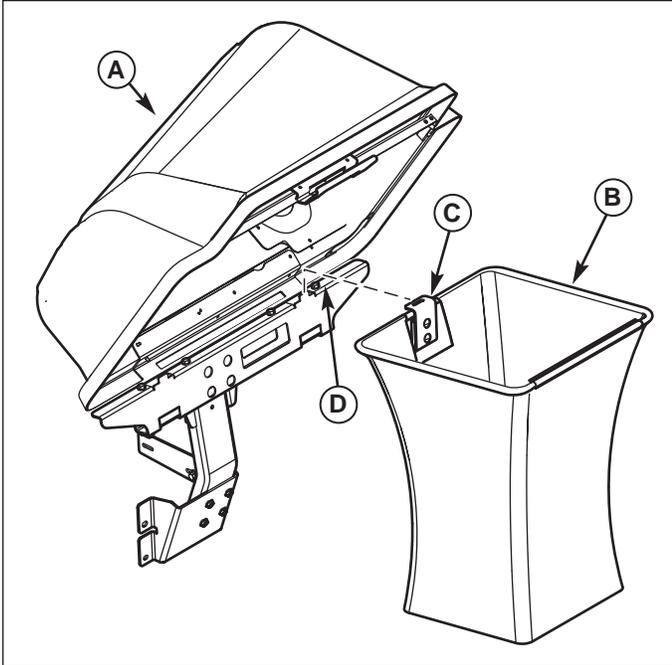
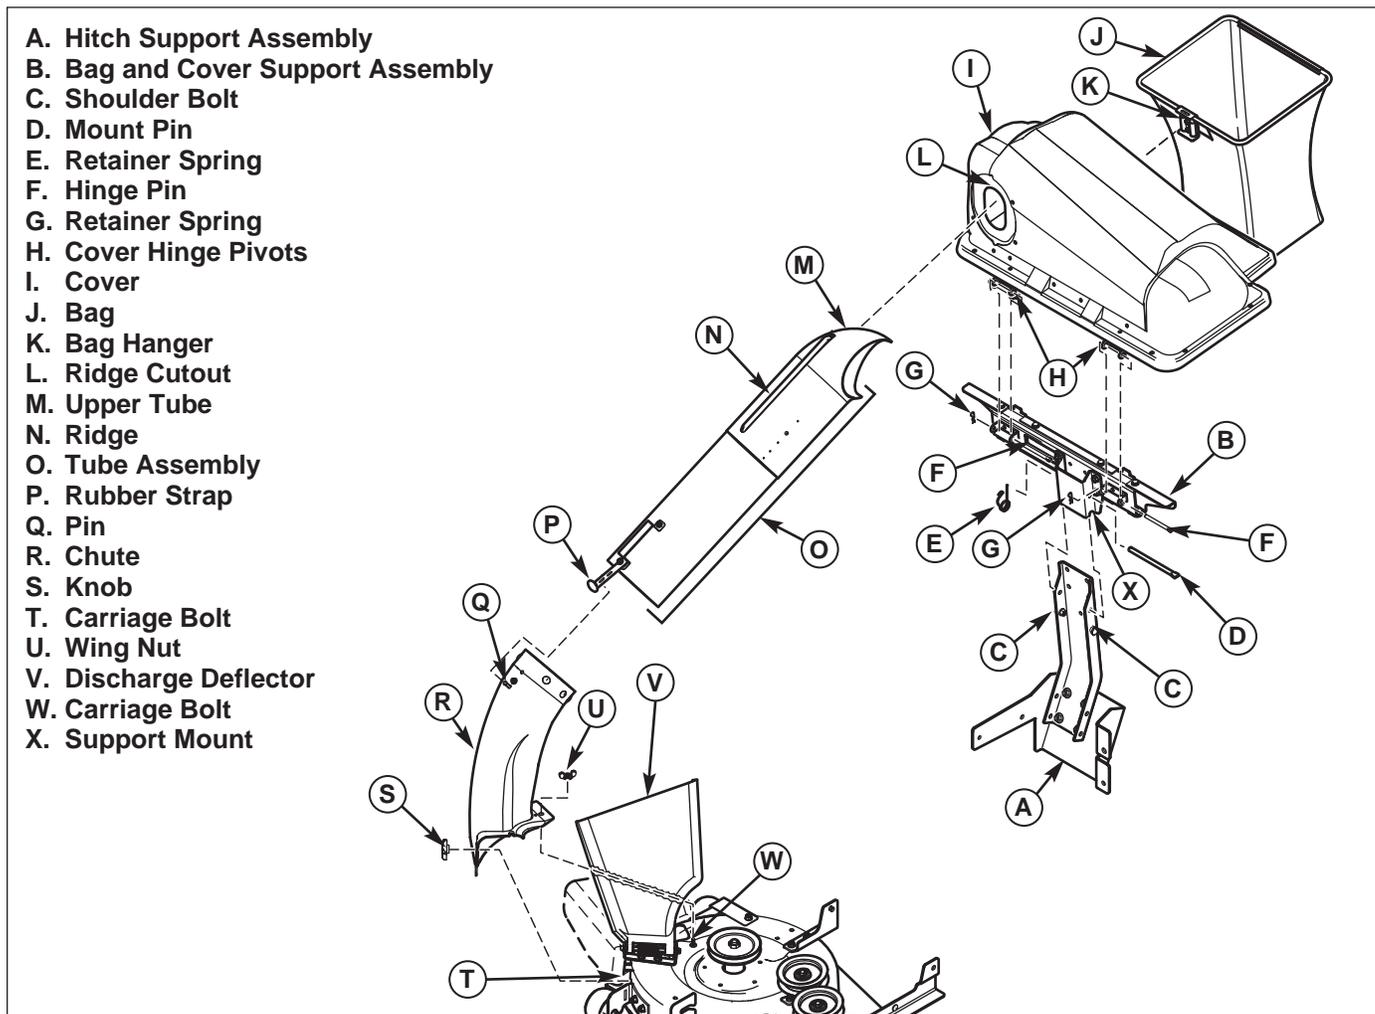

Figure 5. Install Collector Bags
Figure 9. Normal Installation & Removal
1. Raise the cover (A, Figure 5).
2. Attach collector bags (B) using grass bag hanger (C) to bag hanger post (D).
1. Attach bag and cover support assembly (B, Figure 9) to hitch support assembly (A) by sliding the support mount (X) into place until full contact is made with the shoulder bolts (C).
2. Insert mount pin (D) through support mount (X) and upright of hitch assembly (A).
3. Secure mount pin (D) with retainer spring (E).
4. Attach cover assembly (I) to bag support assembly (B) using cover hinges pivots (H). Secure cover assembly (I) to bag support bracket (B) using hinge pins (F) and retainer springs (G).
5. Raise the cover (I), and attach collector bags (J) using grass bag hanger (K) to hanger post (D, Figure 5).
6. Lift discharge deflector (V) up, and Place the holes of the chute (R) onto carriage bolts (T and W) sliding the front edge of the chute under the hinge bracket.
7. Secure knob (S) onto carriage bolt (T) as shown.
8. Secure wing nut (U) onto carriage bolt (W) as shown.
9. Slide upper tube (M) into cover (I) aligning ridge (N) with ridge cutout (L).
10. Slide tube assembly (O) over chute (R) securing tube assembly (O) to lower chute (R) using rubber strap (P) on tube assembly (O) to pin (Q) on chute (R).
1. Unhook rubber strap (P, Figure 9) from pin (Q), then remove tube assembly (O) from chute (R) and from cover (I).
2. Lift cover (I) and remove bags (J) from bag and cover support assembly (B).